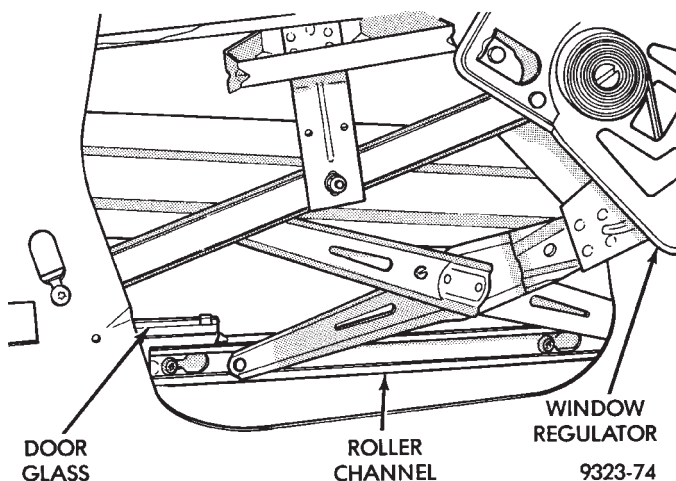

Fig. 30 Front Door Glass
(3) Loosen screws holding regulator roller channel to glass.
(4) Slide roller channel rearward to allow screw heads to pass through key hole slots in channel (Fig. 30).
(5) Separate glass from roller channel.
(6) Raise glass upward and out of the opening at top of door.